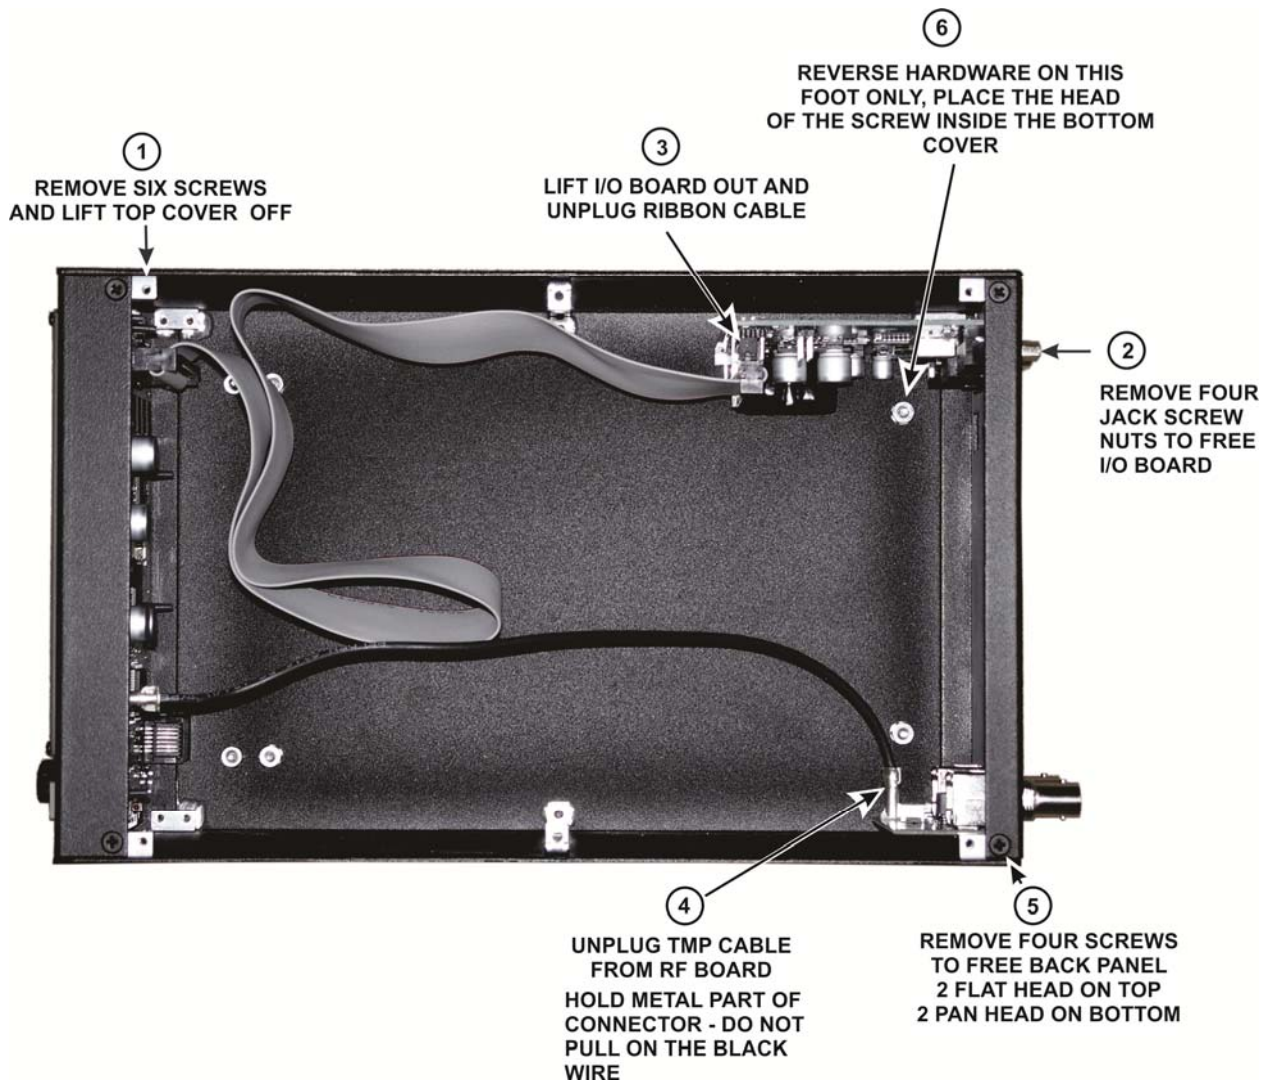
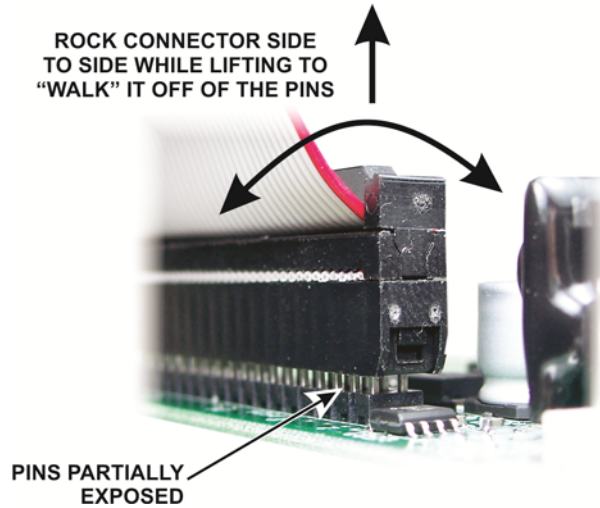
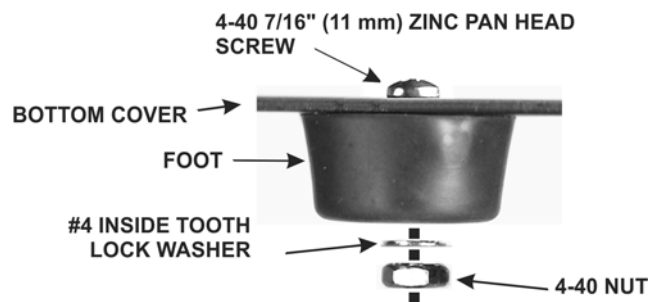
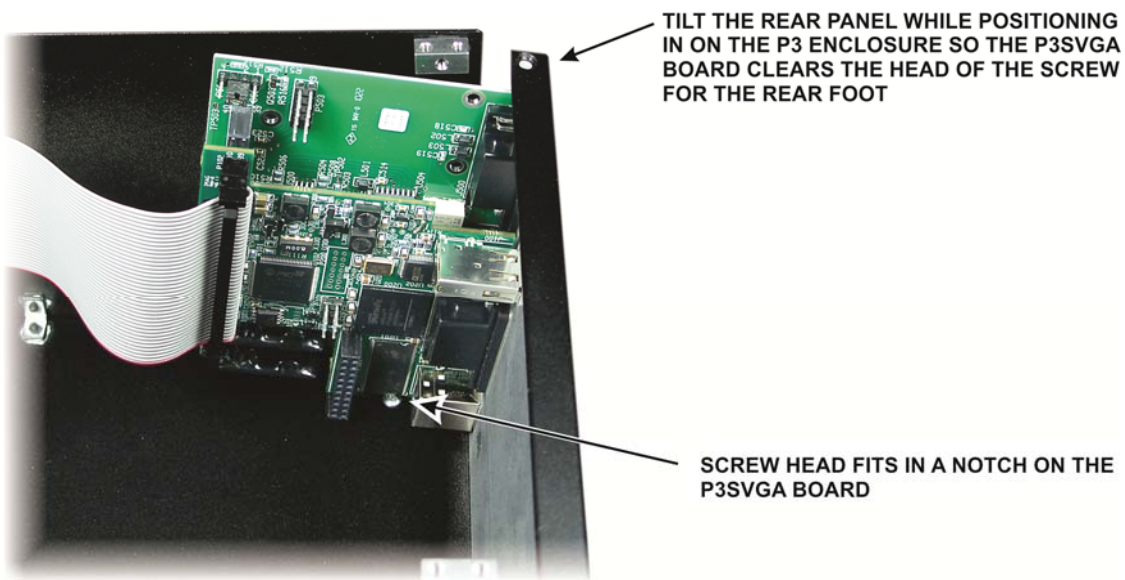

Figure 1. Preparing the P3 to Install the P3SVGA Board.
Figure 2. Unplugging the Ribbon Cable from the I/O Board.
Figure 3. Reversing the Foot Hardware.
Figure 8. Replacing the Rear Panel on the P3.
- Remove the six screws to free the top cover ( Figure 1 (1) ) and lift the cover off. There is a slot at one end that you can use to lift the cover once it is free.
- Remove the four jack screw nuts and lock washers to free the I/O board (Figure 1 (2) )
Lift the I/O board out of the P3 and unplug the ribbon cable (Figure 1 ③). Take care not to damage the board. Hold the board while working the connector side to side to “walk” it off of the pins as shown in Figure 2.
Unplug the TMP coaxial cable from the RF board (Figure 1 ④). This is a friction-fit connector. Do not pull on the black coaxial cable. Grip and pull only on the metal connector.
Remove the four screws holding the rear panel in place (Figure 1 ⑤) and lift the rear panel off of the P3.
Remove and reverse the mounting hardware for the rear foot shown in Figure 1 ⑥). Install the hardware as shown in Figure 3. It must be installed as shown with the screw head inside the bottom cover to provide clearance for the P3SVGA board.
- Replace the rear panel assembly on the P3 as shown in Figure 8. Tilt the assembly so the P3SVGA board does not strike the screw head for the rear foot. The screw head fits in a notch on the P3SVGA board. Secure the rear panel assembly with the screws you removed earlier (Figure 1 (5)).
- Reconnect the TMP cable to the rear panel RF board (Figure 1 (4)).